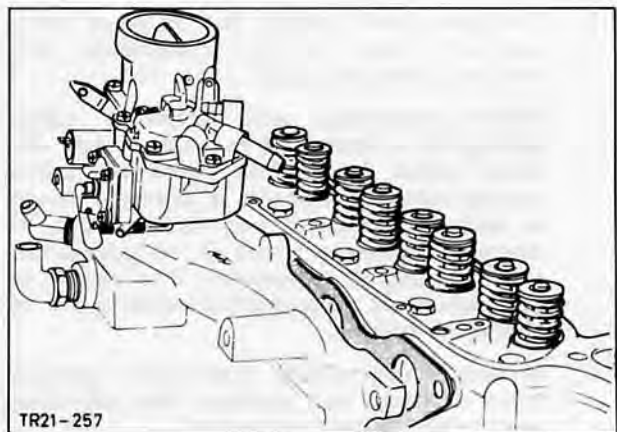

Fig. 151. Install inlet manifold with carburettor
9. Replace inlet manifold complete with carburettor, Fig. 151, and exhaust manifold, using new gaskets.